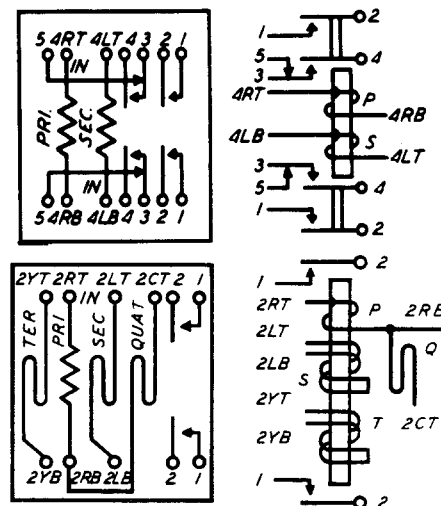

Fig. 2 - Winding and Spring Terminal Arrangement as Viewed From the Rear (terminal side) — A-, E-, F-, H-, M-, R-, AB-, EA-, and 236-Type Relays
2.10 *The first letter (L, R, C, or Y)* shows the location of the winding terminal with respect to the relay core. The terminals are arranged in two horizontal rows as shown in Fig. 2. Where no more than two winding terminals are in one row, the designations L and R are used, L designating a terminal to the right and R a terminal to the left of the core as viewed from the rear of the relay. Where there are more than two winding terminals in a row the designations C and Y are also used. The C terminal is located to the right of the L terminal and the Y terminal to the left of the R. Contact springs are often located between winding terminals, so that the winding terminals C and L or Y and R may not be adjacent to one another.